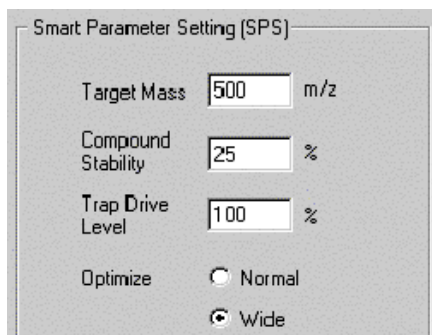

Figure 5. Ion optics settings with good response around 350 m/z for this complex.
4. The sensitivity of the instrument can be optimized for different mass ranges and different types of samples. The settings in Figure 5 have been chosen for good sensitivity for the 350 m/z peak.